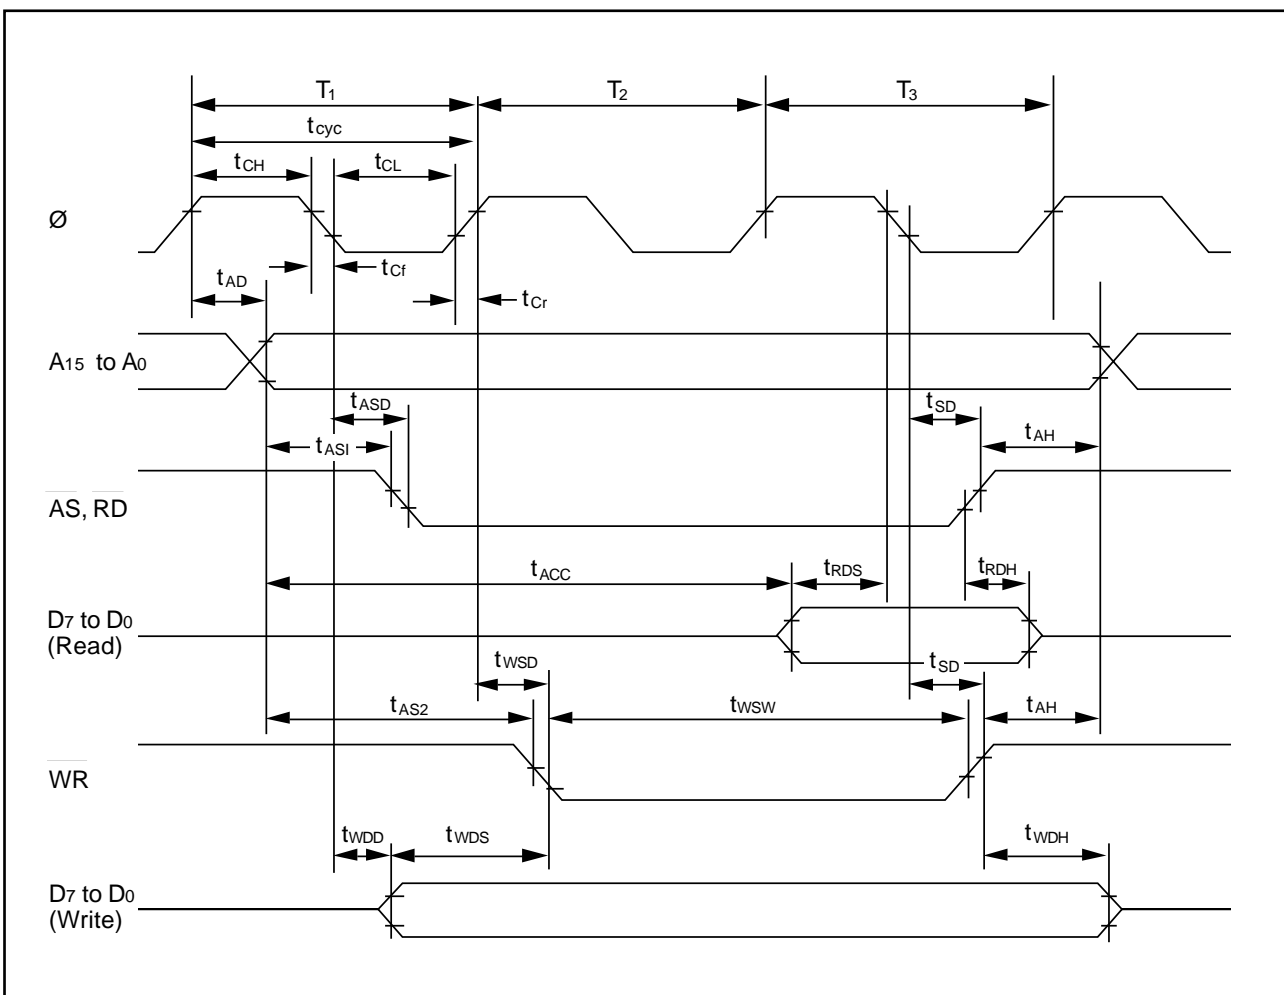

Figure 14-4. Basic Bus Cycle (without Wait States) in Expanded Modes
- 14.3.1 Bus Timing Figures 14-4 to 14-5